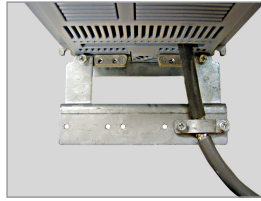

Figure 3.4: Motor cable shielding connection with PCSx-01 accessory
- For inverter frame sizes A, B and C there is an accessory called "Shielding kit for power cables PCSx-01" (see Section 7.2 ACCESSORIES on page 60), which can be mounted at the bottom of the cabinet - the Figure 3.4 on page 19 shows an example. The shielding kit for power cables PCSx-01 goes along with inverters with optional internal C3 RFI filter (CFW700...C3...). The grounding for the motor cable shield on inverter frame sizes D and E is already provided in the standard inverter cabinet. This is also provided on the "Nema1 Kits (KN1x-01)" of the inverter frame sizes A, B and C.
- For frame sizes B and C with degree of protection IP55, the accessory "PCSC-03 power cable shield kit" is available, and for frame size D and E with degree of IP55 use the standard accessories for shielding. The PCSC-03 shield kit comes with the inverter as optional item 55.
3. Shielded output cables (motor cables) and connect the shield at both ends (motor and inverter) with a low impedance connection for high frequency. Use PCSx-01 kit supplied with frame sizes A, B and C inverters. For frame sizes B and C with degree of protection IP55, use the PCSC-03 shield kit. For frame sizes D and E inverters use the clamps supplied with the product. Ensure good contact between the cable shield and the clamps. Refer to Figure 3.4 on page 19 and keep the proper separation from other cables according to Item 3.2.6 Cable Distances on page 24. The maximum motor cable length and conduction and radiated emission levels are presented at Table B.7 on page 234. Use an external RFI filter at the input of the inverter if necessary to have a lower emission level and/or a longer motor cable length. For more information (RFI filter commercial reference, motor cable length and emission levels) refer to Table B.7 on page 234.